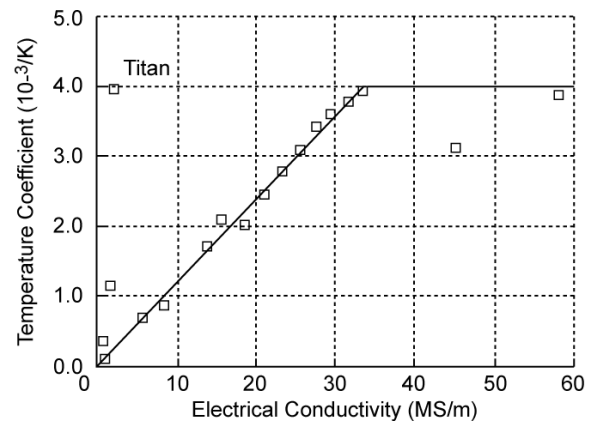

Figure 7.1
A temperature sensor can be connected to the measuring instrument for measuring the material temperature. The temperature coefficient (TC) can be taken from Figure 7.1 for instance. However, it must be noted that, as shown in the illustration for titanium, the
With no temperature correction selected, and the “quasi-temperature compensation” method is used, the calibration pieces and samples to be tested must be allowed to stabilize to the same temperature before the instrument is calibrated. If this is done using calibration pieces with temperature coefficients that fit the curve in figure 7.1 and the test piece temperature coefficient also fits this curve then the conductivity value is corrected to display the approximate 20 degree C conductivity value.
Example 3: If the user is measuring materials other than Nickel Silver or Copper, there may be an error introduced using the "pseudo temperature compensation method". The error in the reading will be the difference between the temperature coefficients of the materials shown on the curve in Figure 7.1 and that of the material to be tested. An example is the pure Titanium in Example 2. If the temperature coefficient of the material being tested falls on the line shown in the graph then there will not be an error.
2. The second temperature compensation mode in the instrument is the "automatic" mode used for both the standards during calibration and for taking measurements. For this method either the internal or external temperature sensor must be selected to turn on the temperature compensation function and the Set Calibration Method in the Instrument Setup menu is set to One Value, Auto Temp Coef. This mode uses the curve for the temperature compensation values shown in Figure 7.1 both for the calibration standards during
Example 1. Using the supplied two piece standard with Nickel Silver and Copper to calibrate the instrument at any temperature other than 20 degrees C, and the temperature coefficient of the material being tested lies on the line of the curve in Figure 7.1, then the measured values will be correct if the following conditions have been observed. The temperature reading shown on the screen must be displaying the temperature of the standards during calibration and the temperature of the material being tested before taking a reading for this to work correctly. This means either the measurement probe and the material under test have been allowed to stabilize to the same temperature, or the external temperature probe has been placed on the material to be tested and has come to a stable temperature reading before the measurement is taken.
Example 2: If the customer uses his own standards for calibration, and the temperature coefficients of his standards fall on the curve shown in Figure 7.1, then the readings at all temperatures should also be correct if the temperature reading has been allowed to stabilize at the material temperature.
the temperature coefficients. Then calibrate using these two standards, and all materials whose temperature coefficients fall on the curve shown in Figure 7.1 would read correctly at all temperatures as long as the temperature reading has been allowed to stabilize as noted above.
Example 2: If the operator uses his own standards with temperature compensation values which fall on the curve shown in Figure 7.1, and enters the temperature compensation values for each standard during calibration, then both the standards and the material being tested will read correctly.
Example 2. The operator uses his own standards for calibration and enters the correct temperature coefficients for those standards. Then -0.004 is entered for the "Manual Temperature Factor" to measure pure Titanium material in the Test Setup Menu. Again, his low standard, if it falls on the Figure 7.1 curve, would appear to be approximately 4% in error if the temperature was 10 degrees C away from 20 degrees C, when he checks it after calibration with the "manual Temperature Factor" active. This is due to the reading is being corrected using the -0.004 entered value.
In this mode the curve in Figure 7.1 is used for the temperature factor for the standards, and the operator entered value for "Manual Temperature Factor" is used for the measurements.
Example 2: If the operator uses his own standards with temperature compensation values which fall on the curve shown in Figure 7.1, then both the standards and the material being tested will measure correctly. For this to be true the correct temperature factor for the material being tested must be entered and the temperature reading must be stabilized.
The ideal situation is to have the two piece standard be made of materials with temperature coefficients that fall on the curve shown in Figure 7.1 and then be testing materials with temperature compensation coefficients that also fall on the curve. In this case the "automatic" mode for both calibration and reading or the "pseudo temperature compensation" methods work correctly. Any materials not falling on the curve would not read correctly, and then the "manual" mode must be used and the temperature factor entered for the material to be tested.